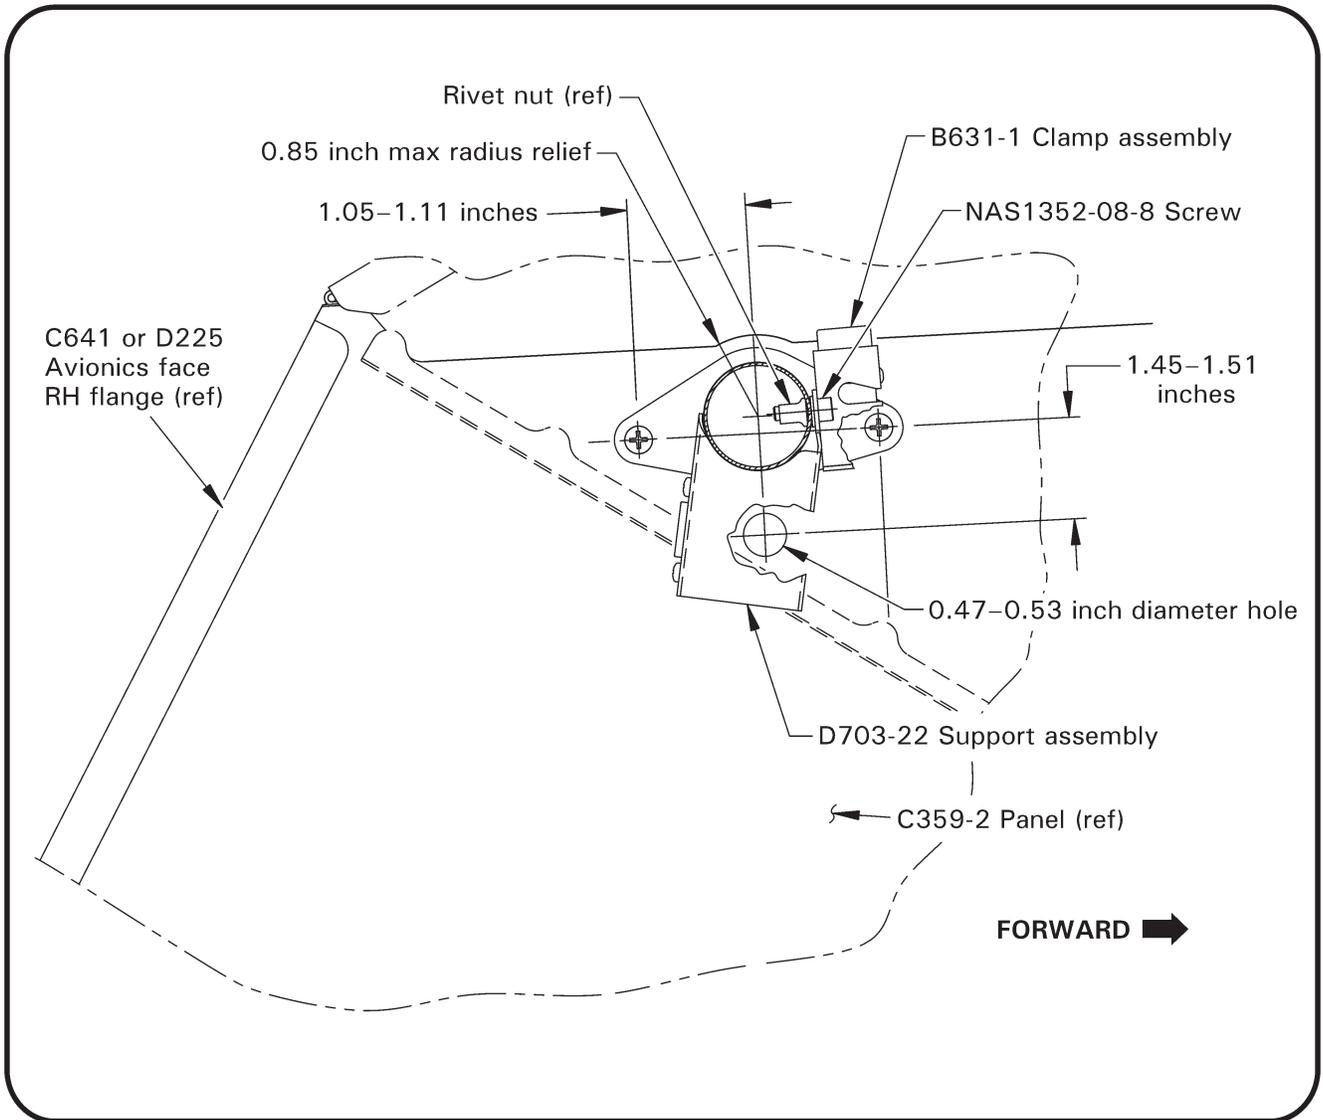
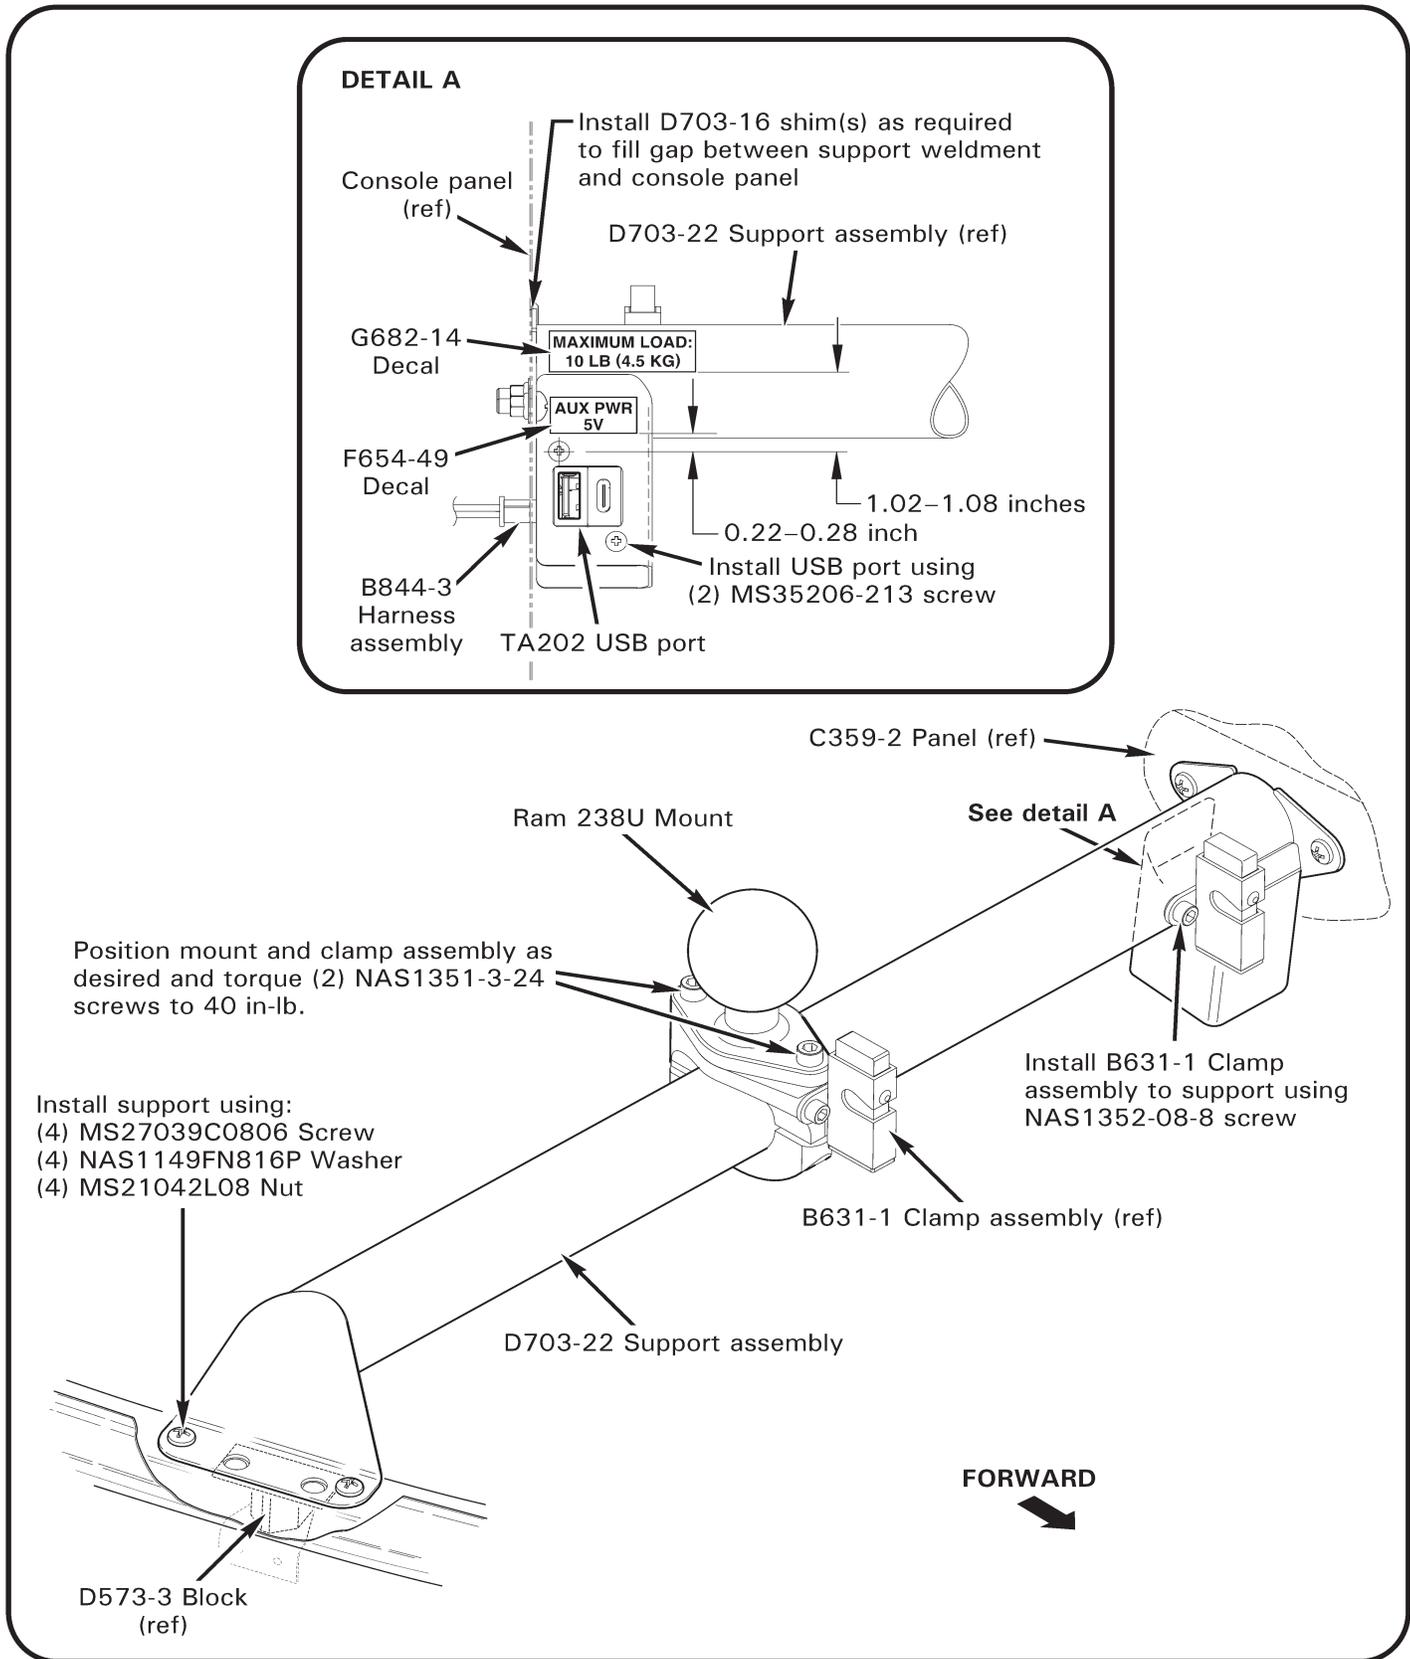

FIGURE 2 RH Support assembly installation shown
FIGURE 4 RH Completed support assembly installation
6. Refer to Figure 2. With both large holes in outboard flange of D703-22 support assembly centered on existing rivet heads which secure D573-3 block, (ref. R44 Illustrated Parts Catalog [IPC] Figure 52-1), temporarily secure support assembly horizontally level $\pm 1^\circ$ and perpendicular to C359-2 console-support panel in horizontal plane $\pm 1^\circ$. Using a hole finder (or similar tool), verify potential match-drilled holes at support's inboard flange will not damage edge, or flange of any installed internal stiffener; adjust support location as required within stated limits. Recheck leveling and clearance prior to drilling; subsequent holes are based on accurately locating support assembly installation holes. Using a drill stop, progressively match drill and install a cleco in (4) 0.170 inch diameter holes, two places per flange. Remove clecos and support.
7. Lay out location for 0.5 inch diameter hole as shown in Figure 2. Verify adequate clearance on reverse side; using a drill stop drill 0.5 inch diameter hole on panel.
12. Refer to Figure 4, Detail A. Install TA202 USB port in provided location at inboard end of D703 support and secure with (2) MS35206-213 screws. Affix F654-49 "AUX PWR 5V" decal on flat surface of support above USB ports, and affix G682-14 "MAXIMUM LOAD: 10 LB (4.5 KG)" decal on tube immediately above USB ports.
13. Refer to Figure 4. Install B631-1 clamp assy, push button pointing up, on inboard end of D703 support and secure at rivet nut (see Figure 2) using a NAS1352-08-8 screw.
14. Install D703 support assembly in helicopter with (4) MS27039C0806 screws, (4) NAS1149FN816P washers, (4) MS21042L08 nuts finger tight. Tighten both outboard screws. As required to fill gap, install maximum (3) D703-16 shims between support assembly and C359-2 panel, using longer screws as necessary. Tighten both inboard screws.
16. With console closed, verify clearance between console lower edge and D703 support. If required, relieve console lower edge per Figure 2; maintain maximum 0.85 inch radius for the relief as shown.
18. Refer to Figure 4. Assemble RAM238U ball & (attached) B630-1 clamp assembly on D703 support with push button on forward side and pointing up. Position clamp & ball as desired and torque (2) NAS1351-3-24 screws to 40 in-lb.